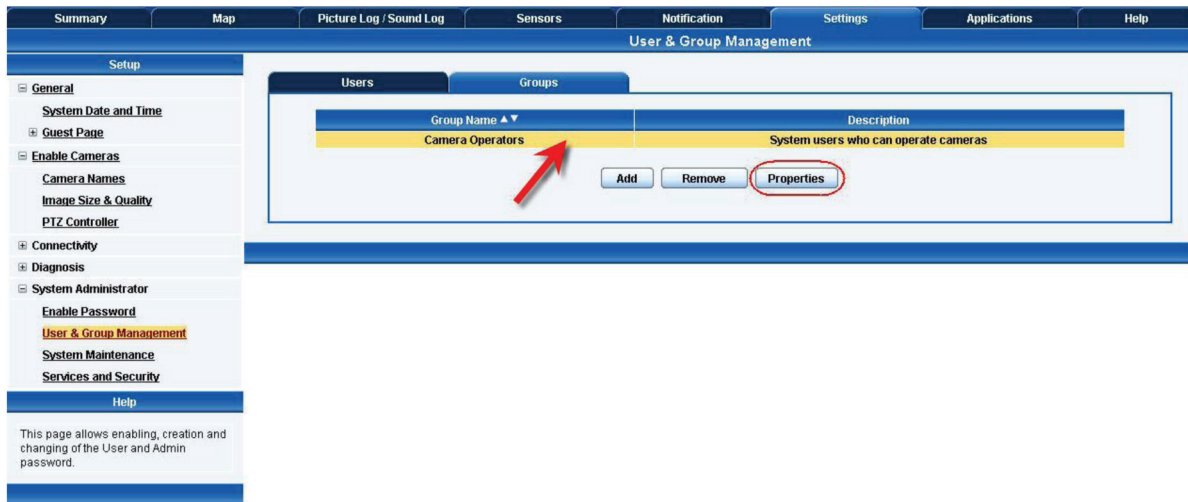

Figure 3-18. User & Group Management screen.
8. If you want to modify your group settings, click on the group you want to modify. Then click on the “Properties” button as shown in Figure 3-18.